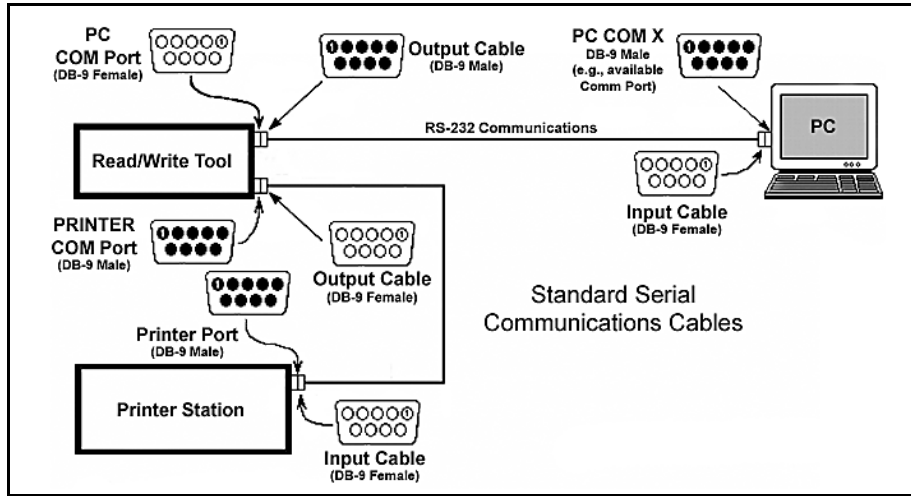

Figure 2 Typical Read-Write Tool Signal Connections
1. Connect the Read-Write Tool to the PC using a Standard Male-to-Female DB-9 Serial Communication Cable between Units (See Figure 2).